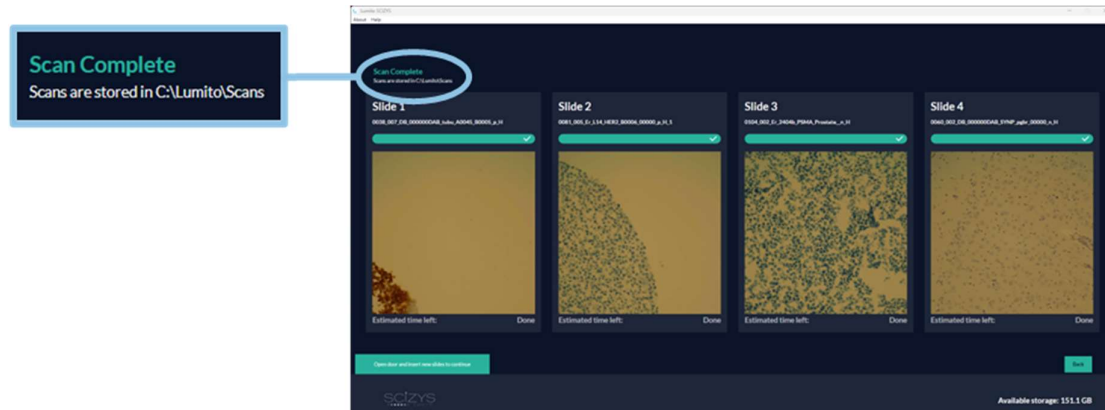

Figure 6-27 Finished scan operation of four slides.
- Verify that the scanning of all slides in the queue has finished successfully, indicated by the green filled progress bars with white checkmarks and the message “Scan complete” (Figure 6-27).